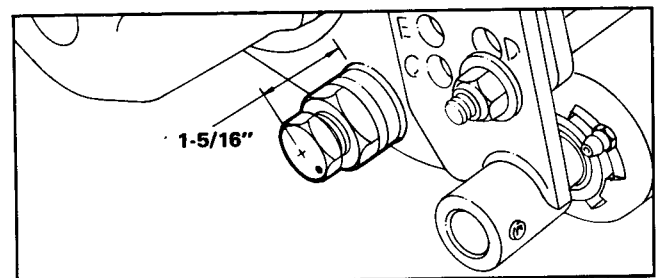

Figure 28
11. Install jam nut on eccentric pivot bolt. Put plastic washer between left side of bedbar and side plate. Thread pivot bolt into side frame until distance from top of pivot bolt to side plate is 1-5/16 in. with identification dot toward the rear (Fig. 28). Do not tighten jam nut.